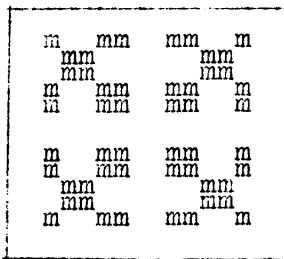

Fig.1
Now we know what is the first step. We must take our profile, whatever it is, and square it block by block. If our profile is the one in fig.1, the treadling (short directions of course) will be: twice tabby (T), once block 1, twice block 2, twice 1, twice T, twice 1, twice 2, once 1, and twice T. It does not matter at this point whether we actually draw the pattern or just write down the treadling.